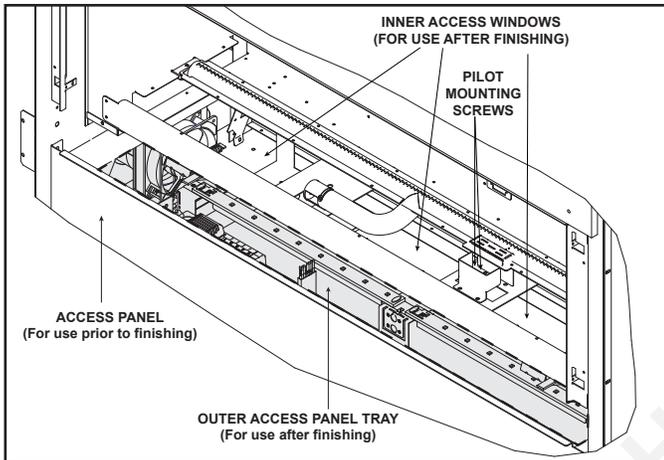

Figure 9.2 Gas and Electrical Access
The lower access cover panel is removable if finishing material is not installed. See Figure 9.2.
- Remove the base pan. It is attached with 10 screws to the interior firebox bottom and with 12 screws to the burner assembly. If your appliance is a model that has the glass rock media, you must also remove the pilot shield cover at this time. See Figure 9.2 and Figure 9.3.
- Remove access panel covers or glass windows, along with gaskets. Gaskets may be fragile. Handle with care. See Figure 9.2.